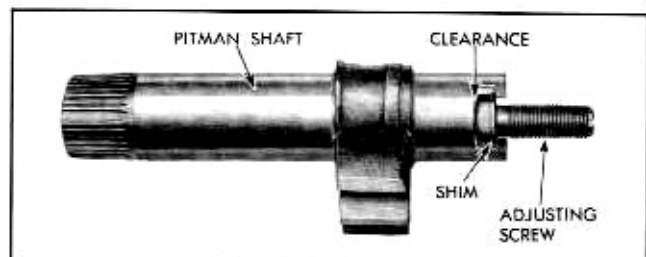

Fig. 9-20 Pitman Shaft and Adjusting Screw
4. Remove adjusting screw from slot in end of pitman shaft. Make sure shim found on adjusting screw remains with screw (Fig. 9-20).
5. Install pitman shaft adjusting screw and selective shim in pitman shaft (Fig. 9-20). **NOTE:** Screw must be free to turn, but have no more than .002" end play. If end play of screw in slot is too tight or too loose, select new shim to give proper clearance. Shims are furnished in four thicknesses: .063", .065", .067", and .069".